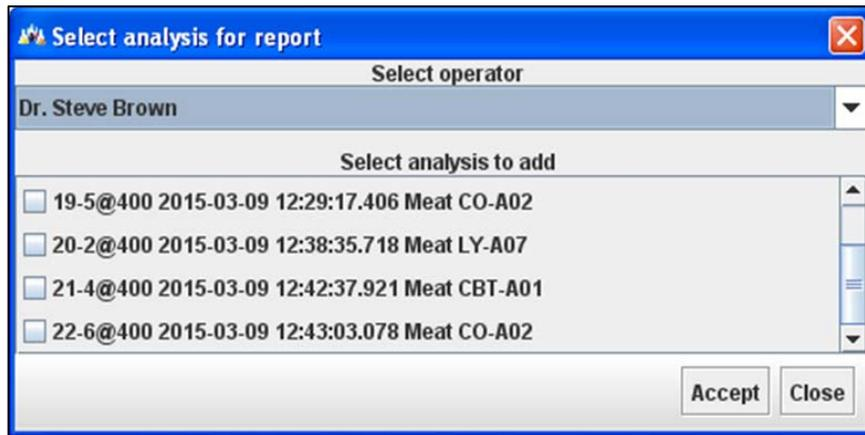

Fig. 18. RVLM – Building Report
- Click on “Build Report”, select an operator and one or more analysis to insert in the Analysis Report, then press “Accept” (fig.18). A PDF file will be generated with the possibility to save it on your pc. **Note:** *the name of the analysis is made from: analysis id – RVLM station @ date of test start – analysed matrix – type of analysis performed.*